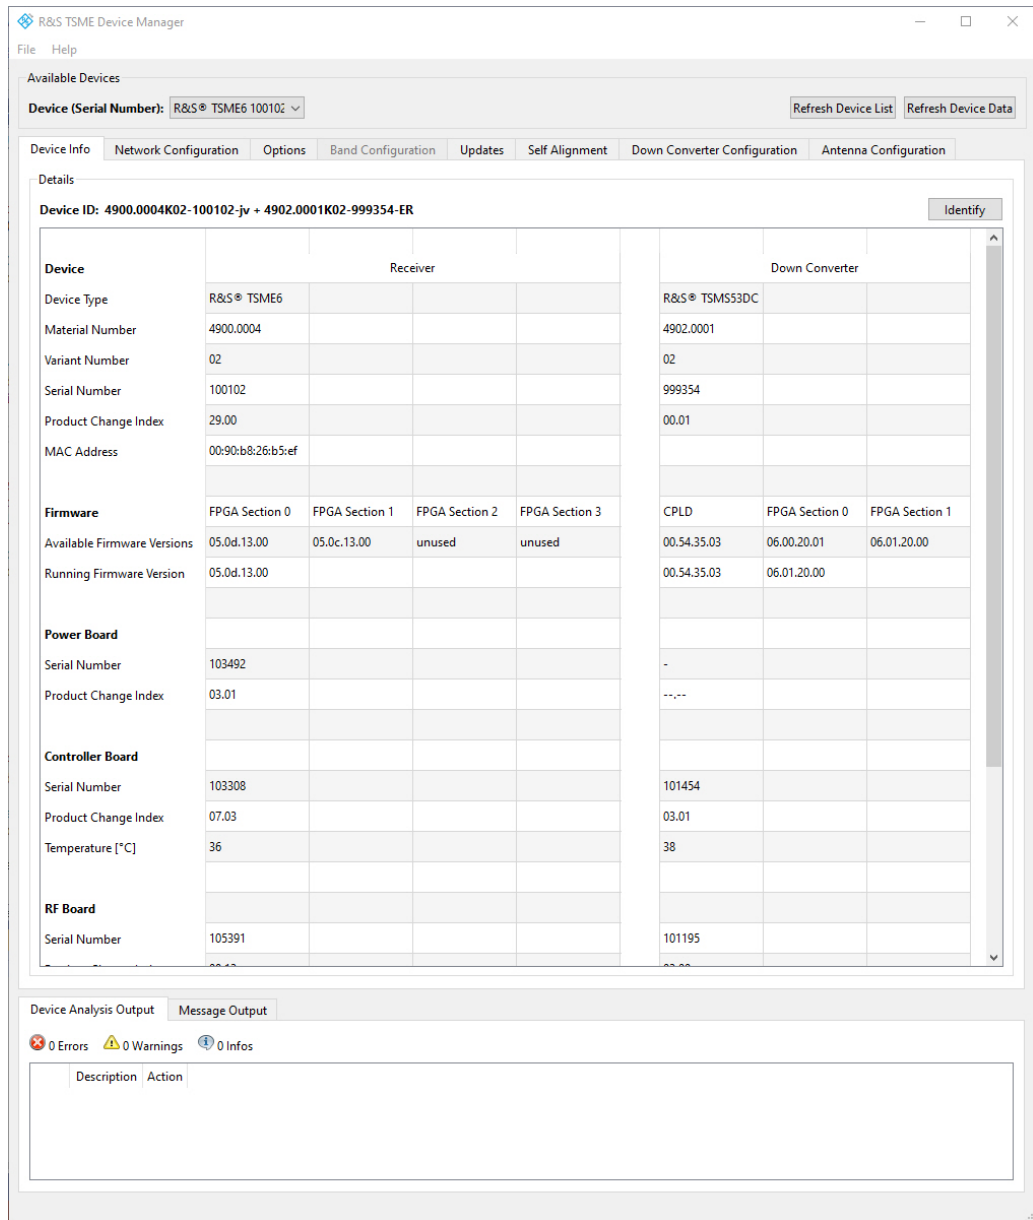

Figure 11-1: Tab "Device Info"
3. If the "Device Info" tab (see Figure 11-1) contains scanner data, the scanner connection exists.
Furthermore, you can see any warnings, errors or information concerning the device status that can occur in the "Device Analysis Output" table. This table is available on all tabs at the bottom of the "R&S TSME Device Manager" window (see Figure 11-1).